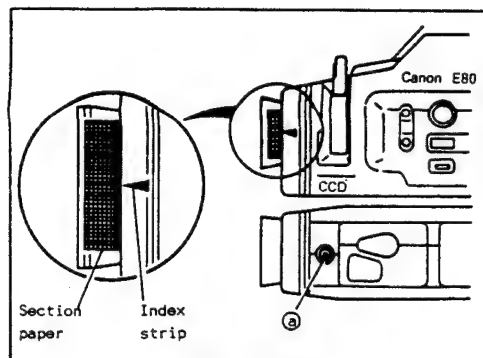

Fig. II-38
- (1) Attach the section paper and the index strip as shown in Fig. II-38.
- (2) Shoot the siemens chart from three meters away.
- (3) With telephoto-end setting, bring the chart image into best focus. Then, mark the relevant index position on the section paper.
- (4) Replace the siemens chart with the 60% or higher reflectance chart.
- (5) Mark the center AF stop position between the infinity and nearest ends on the section paper.
- (6) Check a difference between the positions marked at steps (3) and (5) is within the specified range.
- (7) If not, carry out adjustment by turning screw (a).